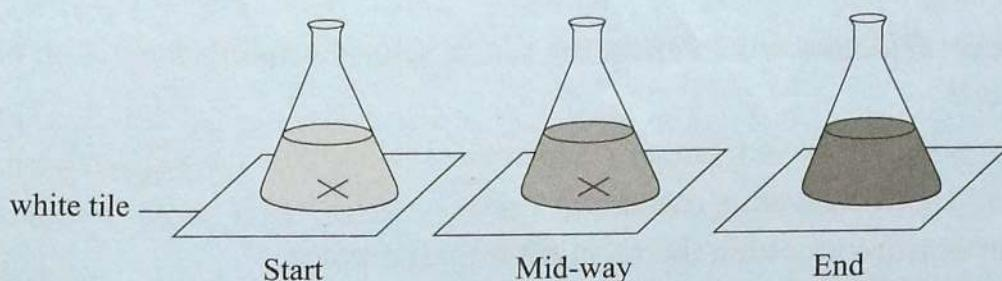

Fig. 1.2: Set-up for determining rate of reaction
5. Place flask A the filter paper or white tile with a black ink cross (X) on it. Add 5 cm³ of 2M hydrochloric acid to the flask. Start the stop watch or stop clock and swirl the contents of the flask. Note and record the time it takes for the cross to be obscured (when you cannot see it anymore). See Fig.1.2.